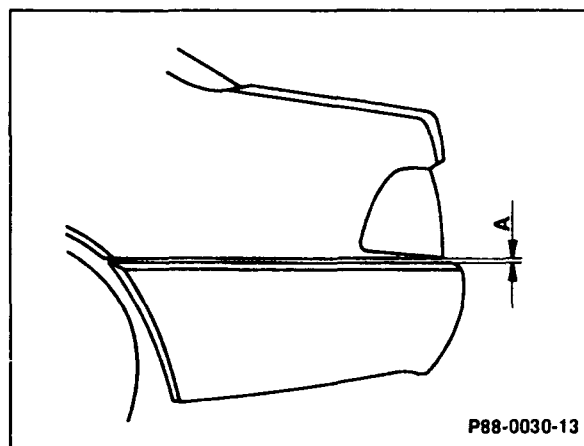

Figure 15
12. Inspect alignment of assembly and adjust if necessary ( $A = 5 \text{ mm}$ , Figure 15).